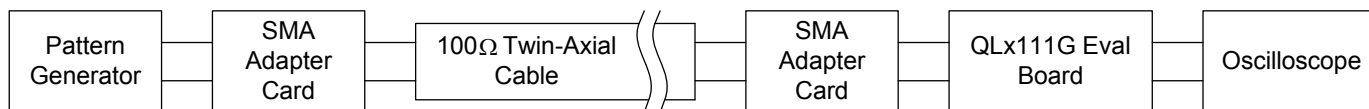
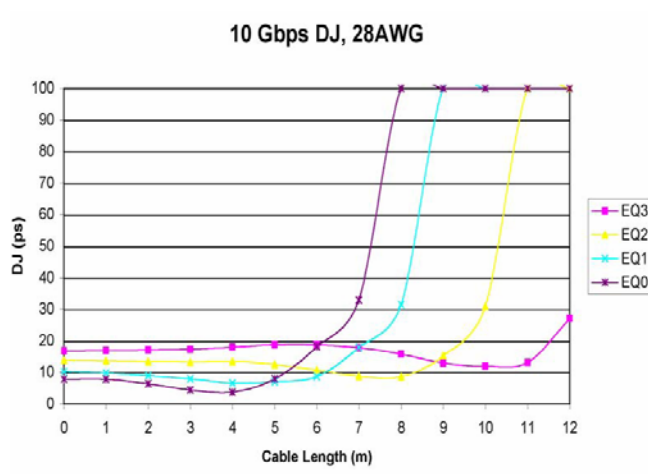

FIGURE 1. DEVICE CHARACTERIZATION SET UP
FIGURE 2. JITTER vs CABLE LENGTH AT 10Gb/s (BOOST LEVELS 0-3)
Performance is measured using the test setup illustrated in Figure 1. The signal from the pattern generator is launched into the twin-ax cable using an SMA adapter card. The chip evaluation board is connected to the output of the cable through another adapter card. The QLx111GRx output signal is then visualized on a scope to determine signal integrity parameters such as jitter (Note 7).
- Prior to the tapeout, the data in Figures 2 and 3 represents simulations approximating the conditions of setup in Figure 1, not measured data.